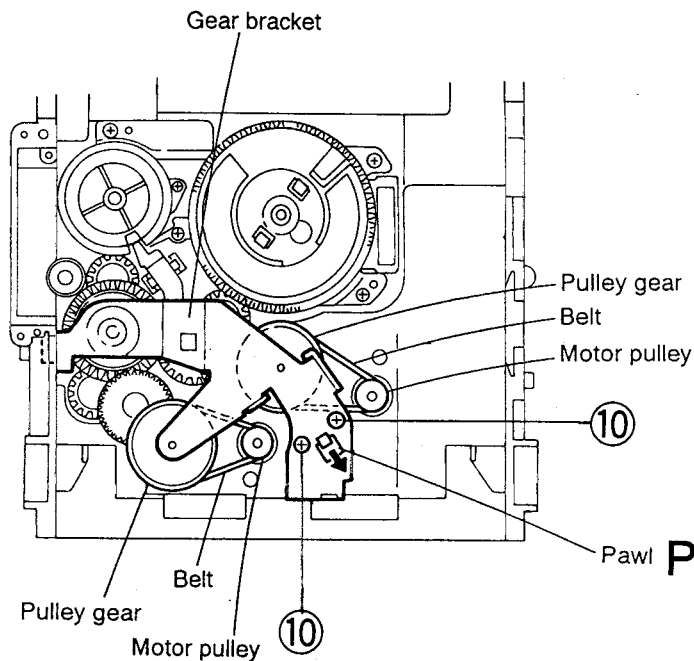

Fig.5-53
1. Remove the two screws ⑩ retaining the gear bracket (See Fig. 5-53).
2. While pressing the pawl "P" fixing the gear bracket in the arrow direction, remove the gear bracket (See Fig. 5-53).
4. Remove the belts respectively from the right and left actuator motor pulleys and pulley gears (See Fig. 5-53).